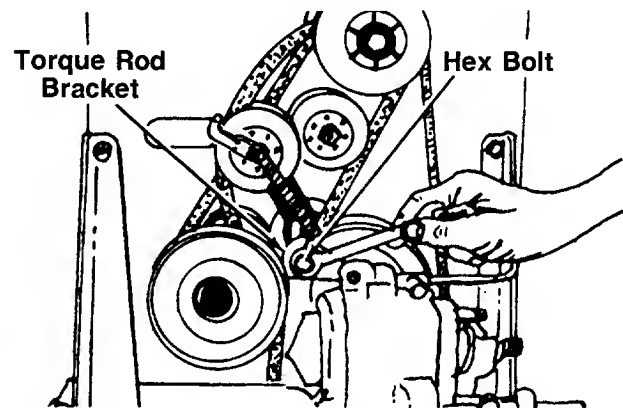

FIGURE 18.
4. Remove the hex bolt, nut and lock washer at the torque rod bracket and transaxle. See figure 18.
5. Remove the hex bolt which holds the torque rod bracket to the torque rod, and remove bracket. See figure 18.